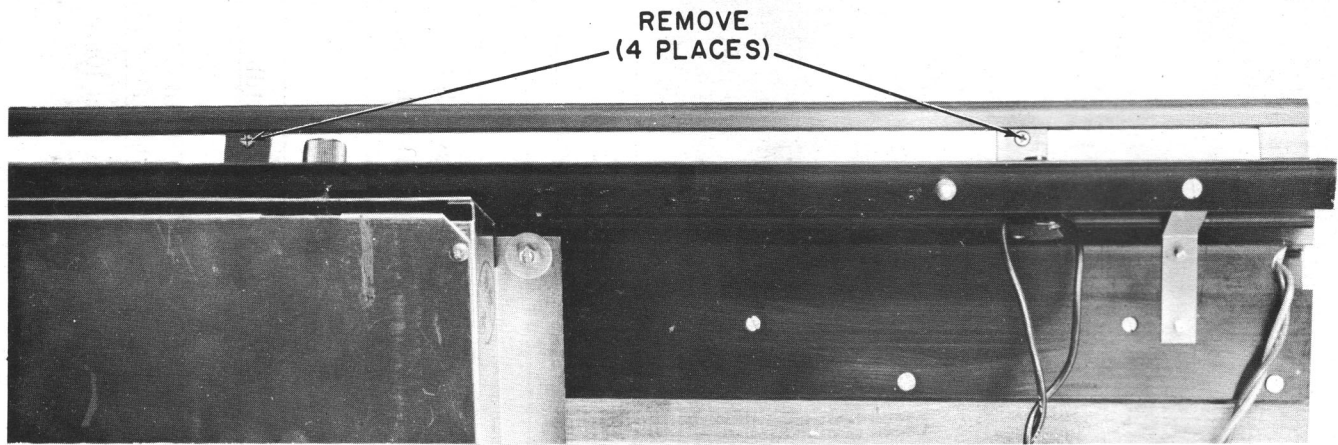
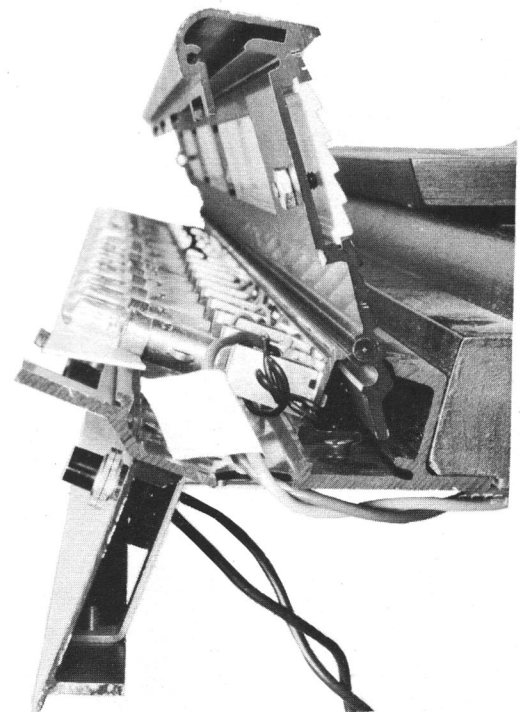

Figure 4-2. Underside of Illuminator
Figure 4-3. Illuminator, Cover Open
**4-9. REPLACEMENT OF MUSIC ILLUMINATOR LAMP(S).**—To replace one or more of the music illuminator lamps, remove four screws on underside of illuminator assembly (See Figure 4-2). Swing cover of illuminator up for access to lamps (See Figure 4-3).